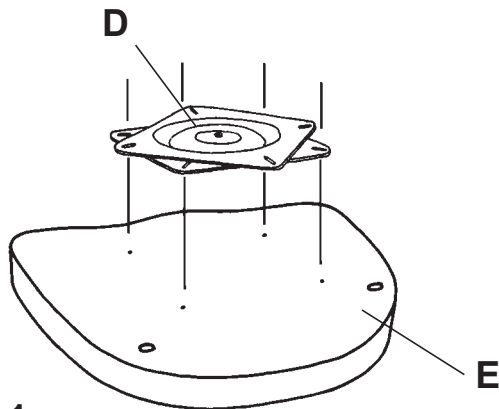

FIG. 1
- 1) Turn the top of the Swivel (D) approximately 1/8 turn in relation to the bottom of the swivel. Center the Swivel (D) on the bottom of the Seat (E) as shown in FIGURE 1. The holes for the screws in the swivel will line up with the indentations on the seat. Remove the swivel and drill 1/8" diameter pilot hole 1/2" deep, in the center of each indentation. ***(Do not attach the swivel at this time.)***